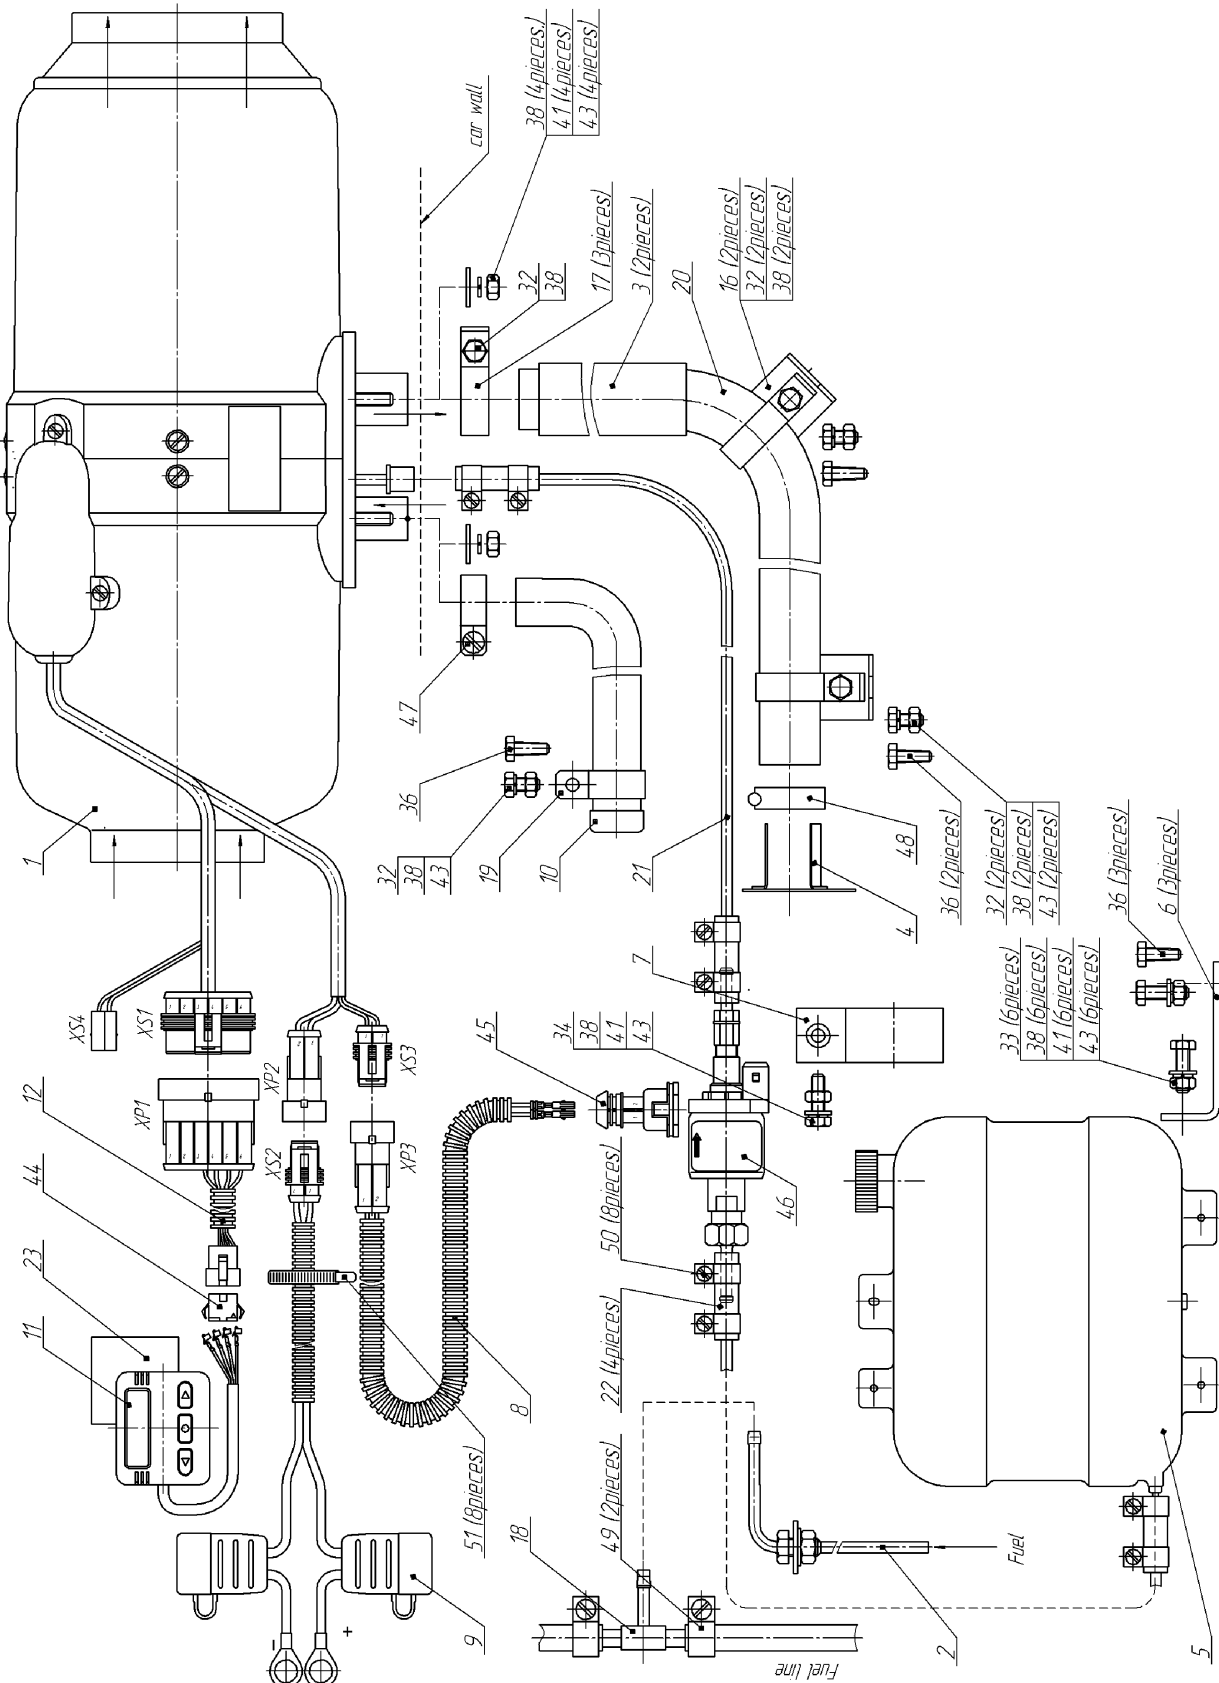

Figure 7.1 – Connection Diagram of Basic Heater Components
See Figure 7.1 for scope of supply and connection diagram of basic heater components. For list of basic heater components, see Table 7.1. The package additionally includes repair kit candles and gaskets.
Screen installation to make according to fig. 7.1.
When installing the exhaust pipe, be mindful of its high operating temperature. Cut the exhaust pipe (a flexible corrugated metal hose) to size. Fix the exhaust pipe in place using clamps and position it at a slight angle following the trajectory of gas flow. To protect some parts of the vehicle (electric wiring and other harness) from high temperatures, there must be heat insulation installed.(pos.9, fig.7.1)
Do not allow exhaust gas to affect the performance of vehicle components. Position the exhaust pipe outlet vent so as to prevent snow entering or choking the pipe and to allow incoming water to run off. At the vent of the exhaust pipe the screen is installed, this necessary for stable operation of the heater while working low idle. If this screen is not installed, install it according fig.7.1
The fuel supply pump should be mounted as close to the fuel tank as possible and positioned below the tank's lower fuel level (ref. Fig7.1 pos.5).